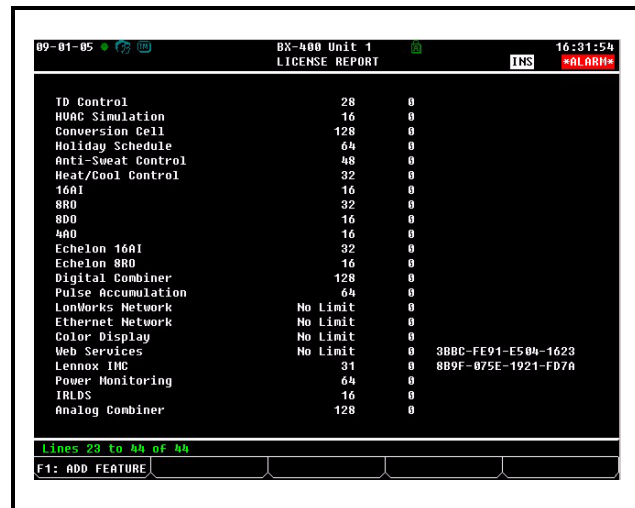

Figure 2-3 - License Report Screen
4. Reboot the controller and open the License Report screen again to see the license key appear next to the activated feature (*Figure 2-3*):